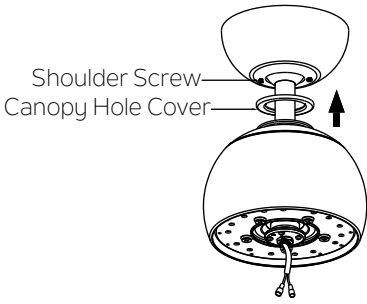

Fig. 14
Step 3. Securely attach and tighten the canopy hole cover over the shoulder screws in the mounting bracket utilizing the keyslot twist-lock feature. (Fig. 14)